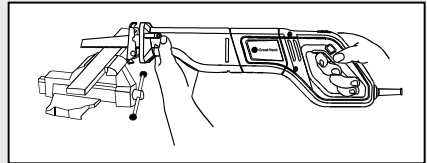

Fig. 5
4. Hold the saw away from your body and in front of you (Fig. 5).